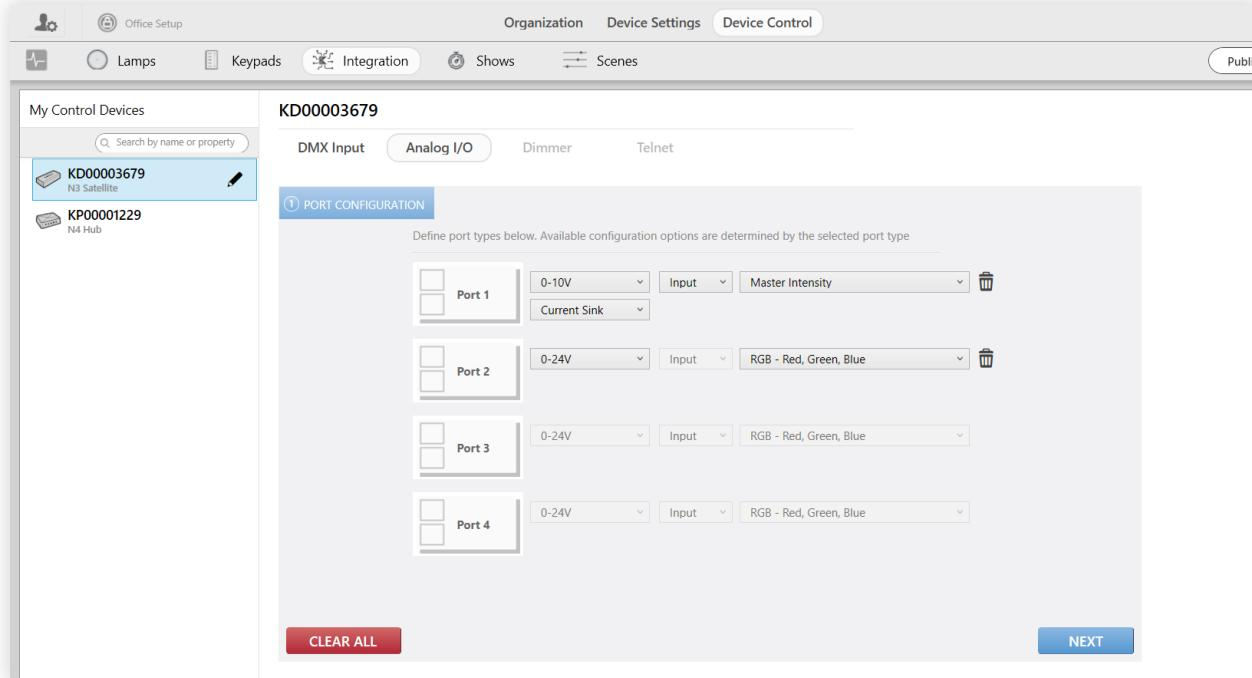

fig. 69
- 1 Select the N3 Satellite you want to program. Your list of N3 Satellites can be found in the My Control Devices panel, as in fig. 69.
As soon as you set the port type, additional dropdowns appear, as in fig. 69.